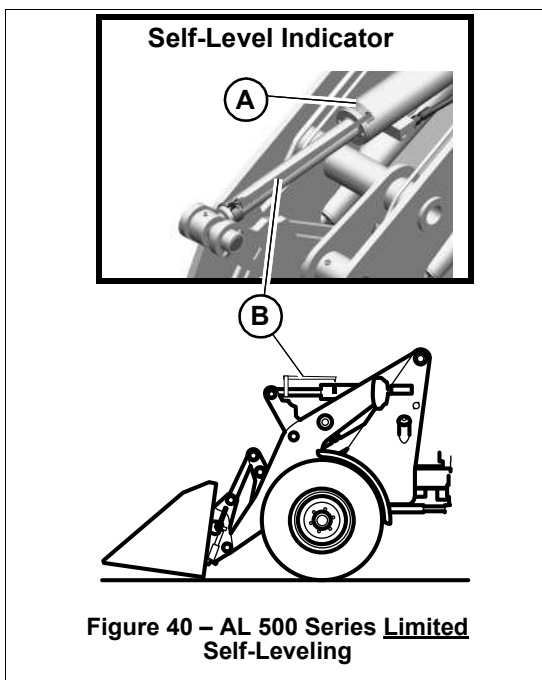

Figure 40 – AL 500 Series Limited Self-Leveling
⚠ WARNING Without self-leveling, unintentional dumping (tilting forward) of the attachment can occur when the lift arm is raised or lowered. The pointer on self-level indicator (B, Fig. 40) must be within in the zone of self-level decal (A) or the attachment will not maintain the same attachment tilt angle when the lift arm is raised and lowered.